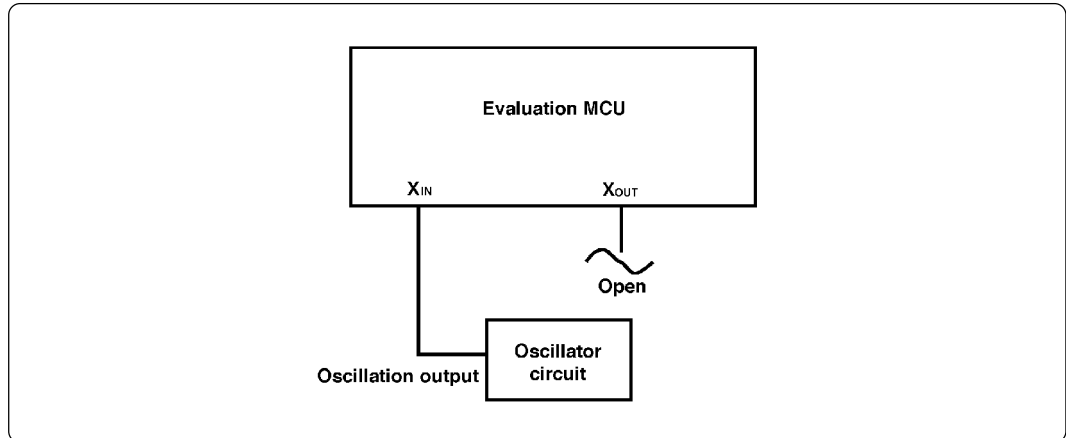

Figure 3.3 External oscillator circuit
- To operate the emulation pod with an external clock, construct the oscillator circuit as shown in Figure 3.3 in the target system and input the oscillator output at 50% duty (within the operating range of the evaluation MCU) into the XIN pin. And the XOUT pin should be open.